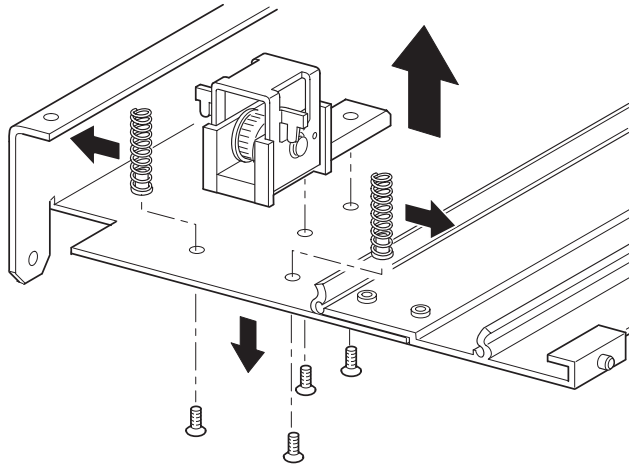

Figure 74. Tensioner ramp/idler pulley
7. Remove the belt tensioner components as shown in Figure 74 on page 79.
11. Attach the tensioner ramp/idler pulley components to the cartridge elevator extension in the same manner as shown in Figure 74 on page 79.